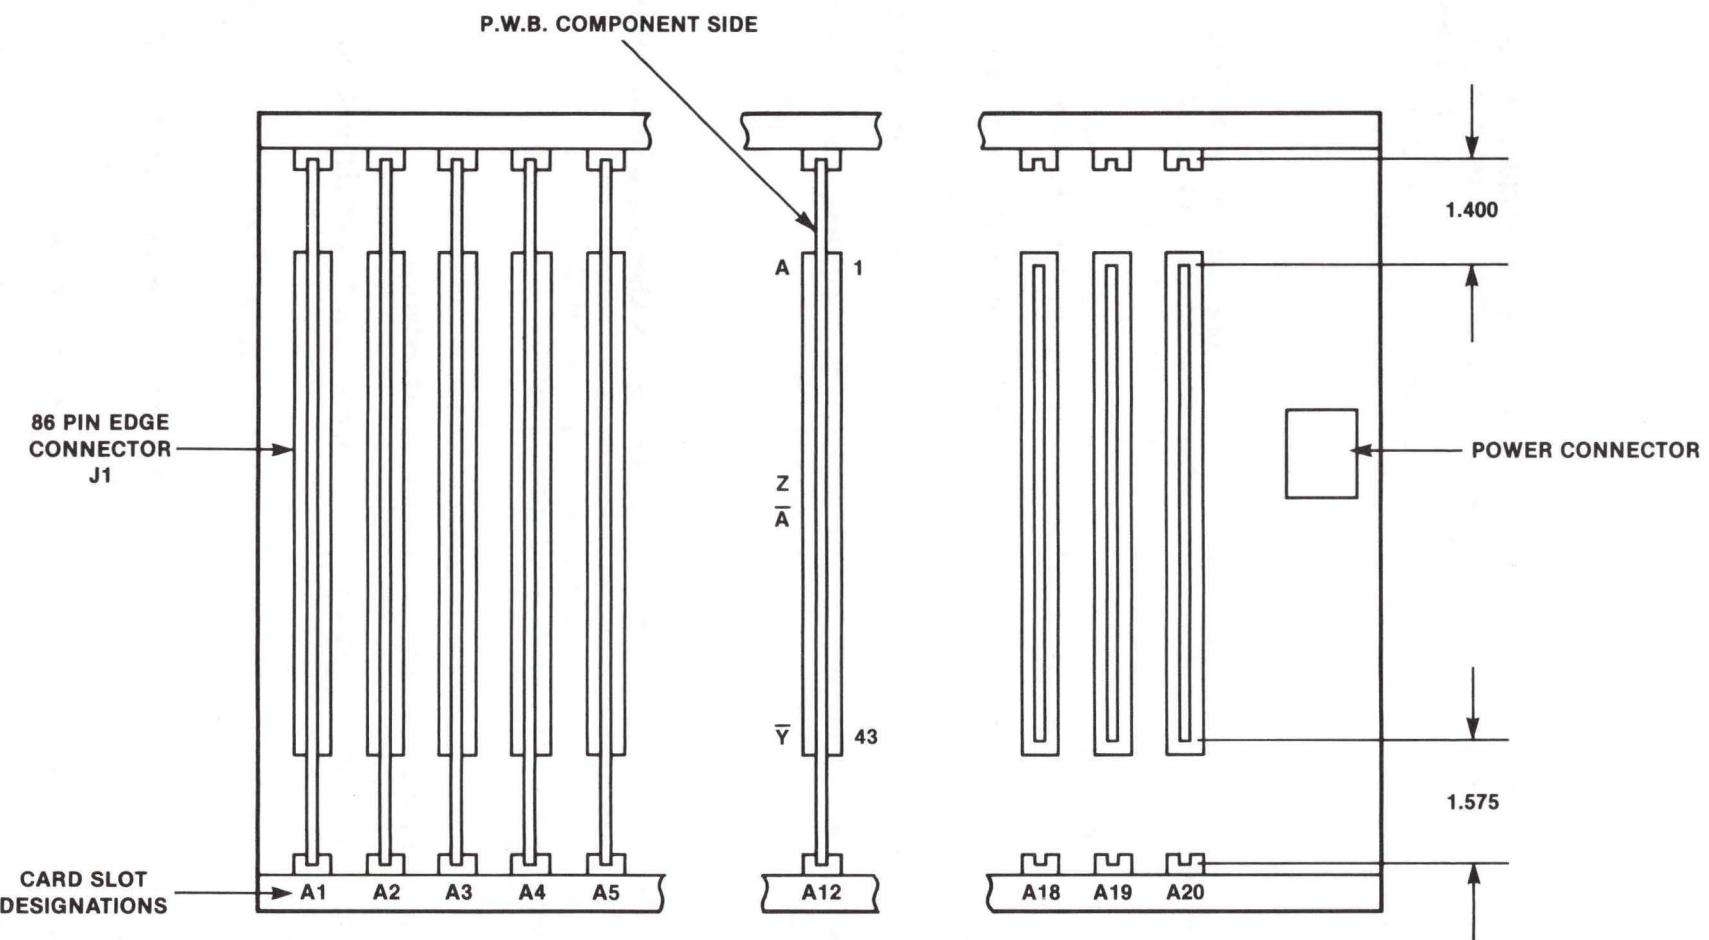

FIGURE 5-1. Motherboard Reference Designations and Pin Numbering Standard
The following standards are recommended for motherboard identification purposes (see Figure 5-1):
- a. Card slot locations are designated A1, A2, A3, etc. The numbering technique is illustrated in Figure 5-1.
- c. Numbering of the 86-pin socket is depicted in Figure 5-1.